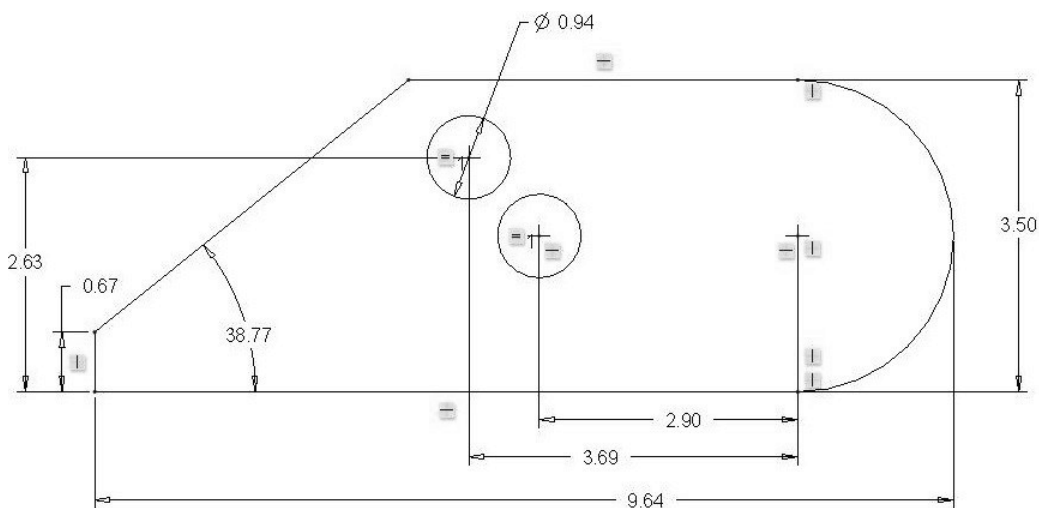

Figure 3-22 Add Dimensions
- Step 8:** Use  to dimension the sketch according to design intent. The first step is to dimension the figure per design intent as shown in Figure 3-22. Don't worry about the value of the dimensions yet. *Press* MMB to terminate.